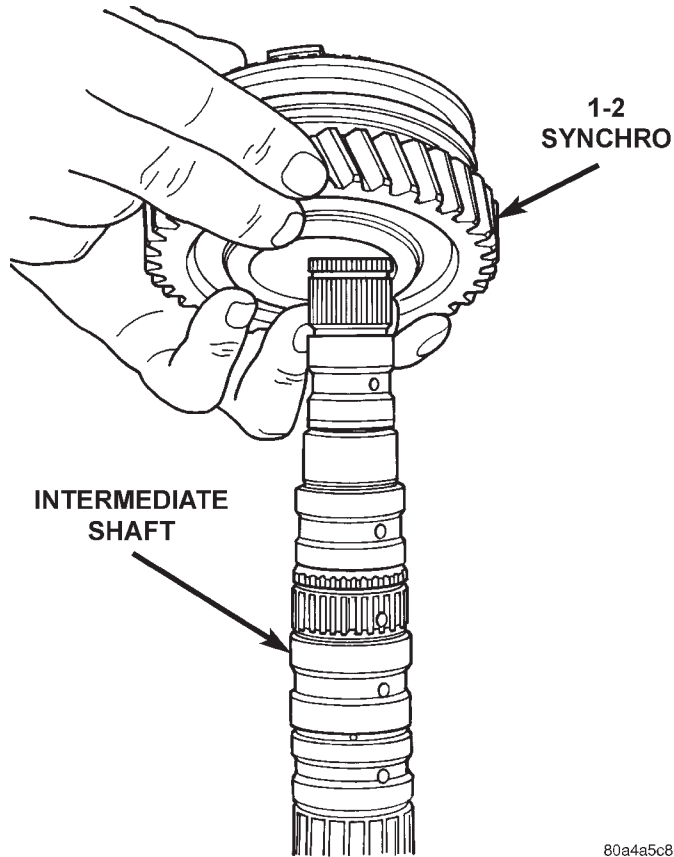

Fig. 144 1-2 Dual Cone Synchro
(15) Remove 1-2 dual cone synchro assembly and 1st speed gear (Fig. 144).